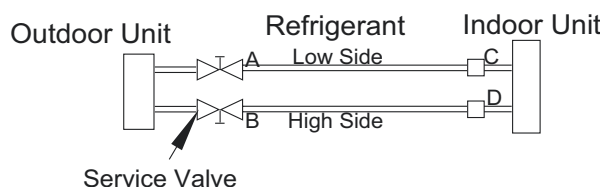

Fig. 23 — Service Valve
1. Completely tighten the flare nuts (A, B, C, D, E). Fully open all circuits service valves. Connect the manifold gage charge hose to the charge port of the low side Master service valve to evacuate all circuits at the same time (see Fig. 23).